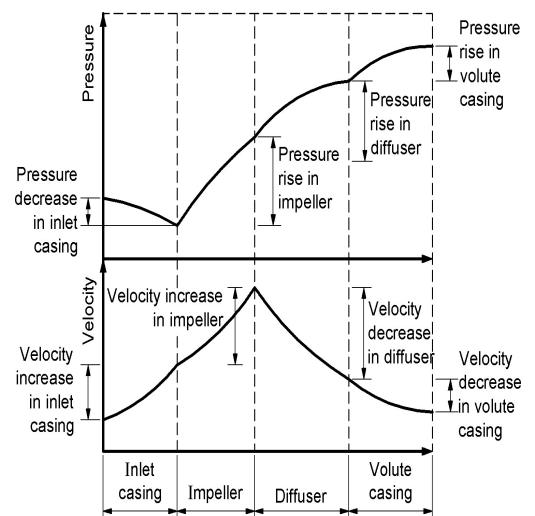

Fig.5.11 Pressure and velocity variation in a centrifugal compressor
- (1) When power is given to the compressor, due to rotation of the impeller, vacuum is created at the eye of the impeller, hence air is sucked axially from the inlet casing provided with accelerating nozzle.
- (2) Due to acceleration of flow in the inlet casing, velocity increases, pressure and temperature of air decreases. The air then flows radially from the impeller eye (inlet diameter) to the tip (outer diameter) of the impeller blade.
- (3) Due to centrifugal action of the impeller, there is increase in momentum of air flowing through it, causing a rise in static pressure, velocity and temperature of air.
- (4) The air leaving the impeller enters the diffuser which consists of fixed blades. The velocity of air is reduced and pressure is increased in the diffuser.
- (5) The high pressure air leaving the diffuser then passes to volute casing from where air is discharged through the compressor.
- (6) The volute casing is of spiral passage with increased cross-sectional area which helps in further reducing the velocity of air and raising its pressure. Fig. 5.11 shows pressure and velocity variation in a centrifugal compressor.